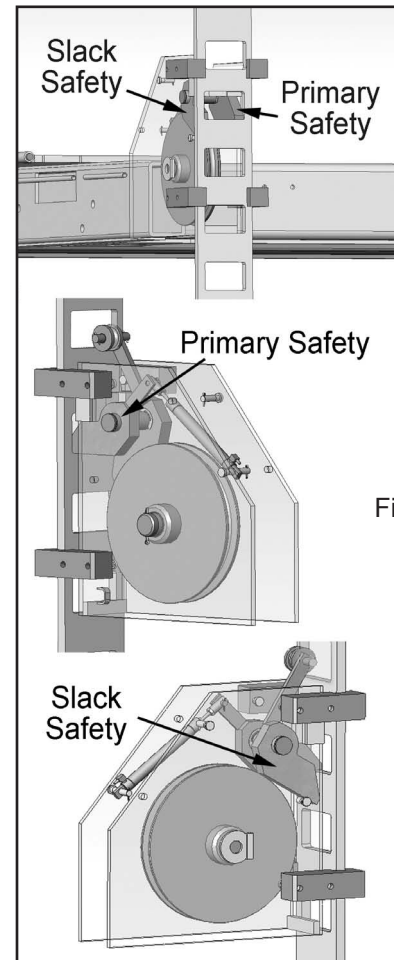

Fig. 4.1
2. Using a forklift or crane, manually raise the CROSS TUBES until the Primary Safety Locks engage and rest on the lock position second down from the top of the Ladder or approximately 52" off the ground. It is important that the SLACK SAFETY LOCK IS CLEARED. The Slack Safety Lock must never rest on the safety ladder. (See Fig. 4.1)